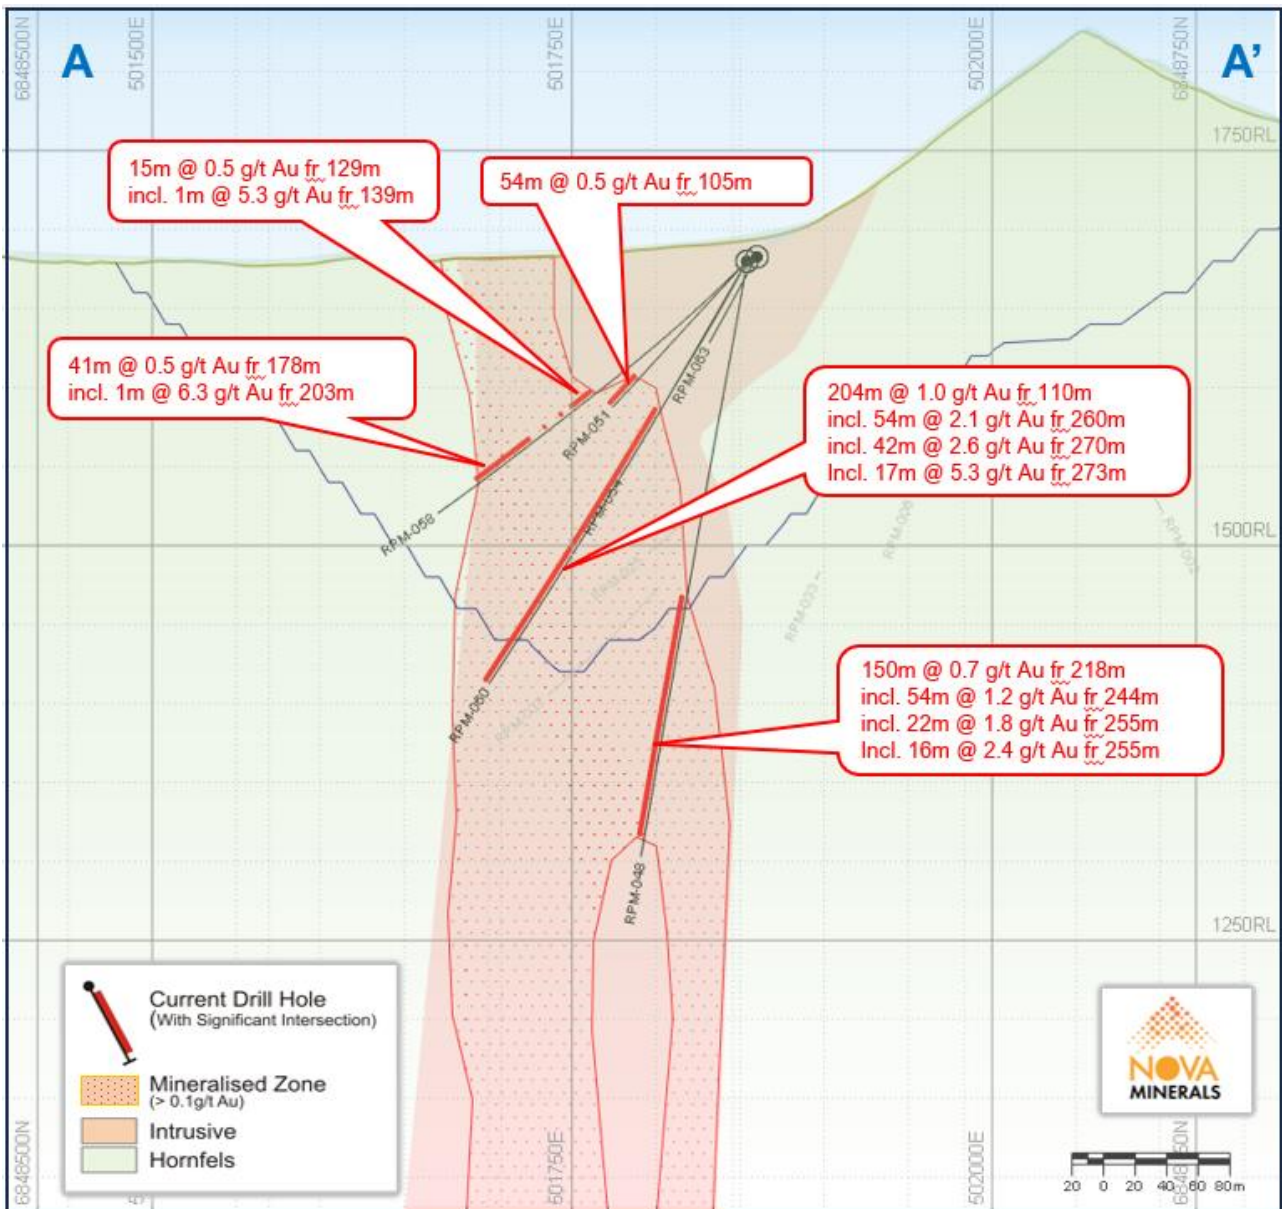

Figure 1. RPM Valley Section A-A' _070azi showing continuity of mineralization
- Broad high-grade gold intersections continue at RPM Valley where mineralization remains wide open. Significant results include (Table 1 and Figures 1 and 2):